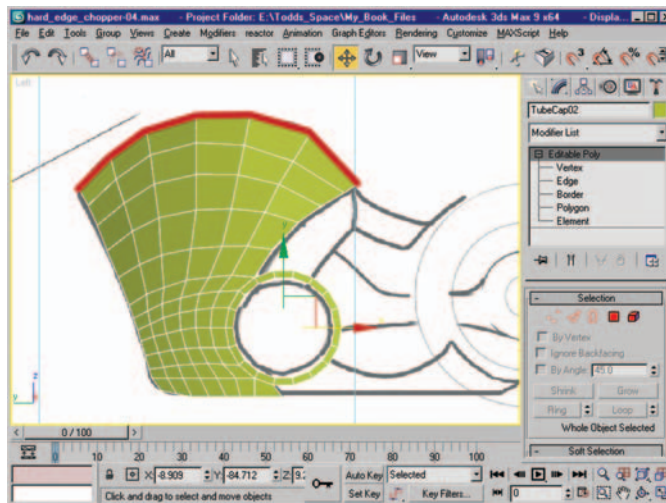

Figure 8.16 New edges after adjusting vertex position to match reference image.
19. With the top row of edges selected, shift-drag them to the approximate location of the top line of the fuel tank in the blueprint. Use the Move tool to position the vertices so they match the line on the blueprint. Figure 8.16 shows the new edges after adjusting the vertex positions.